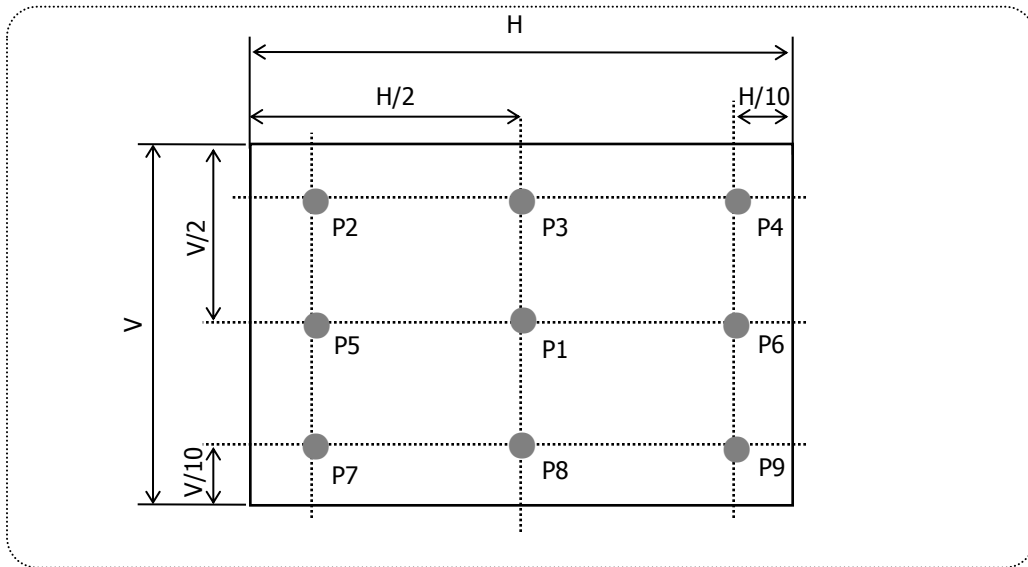

FIG.8 Measure Point for Luminance
2. Surface luminance(L_{WH}) is luminance value at Center 1 point(P1) across the LCD surface 50cm from the surface with all pixels displaying white. For more information see FIG.8 (By PR880)
For more information see FIG.8